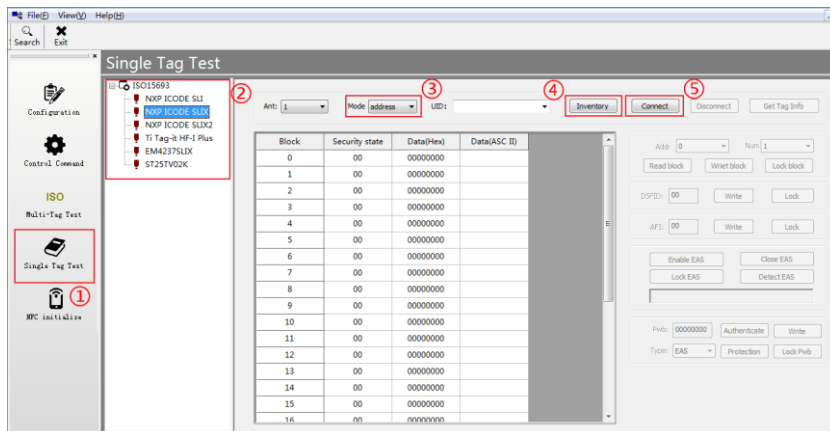

Figure 14 Single tag test steps
Click “Single Tag Test” after starting R-Tool, as shown in Figure 14, Step ①, ②, ③, ④, ⑤.